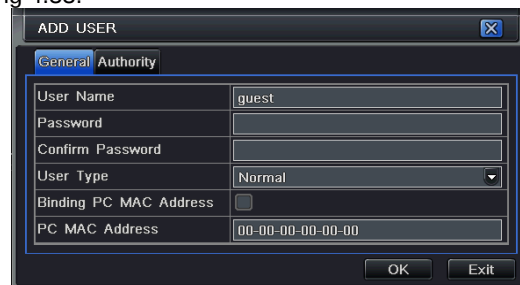

Fig 4.33 Add - General
Step 2: After clicking Add button, a dialog box will pop-up like in Fig 4.33.